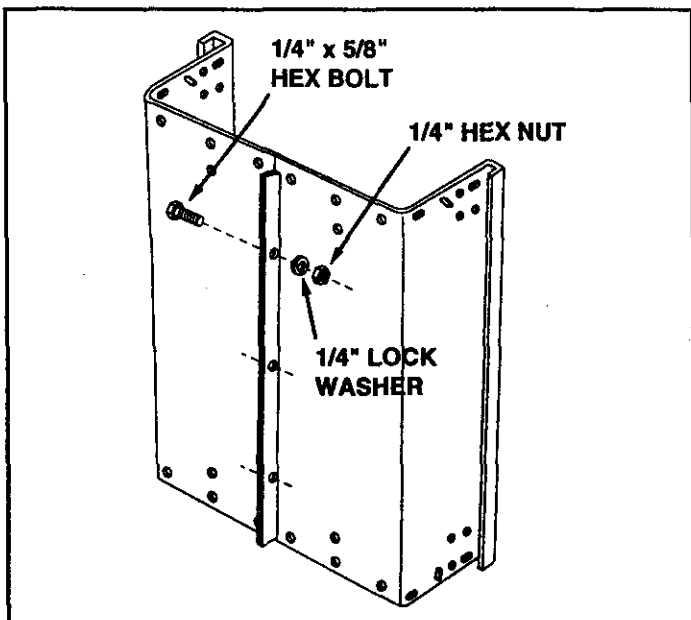
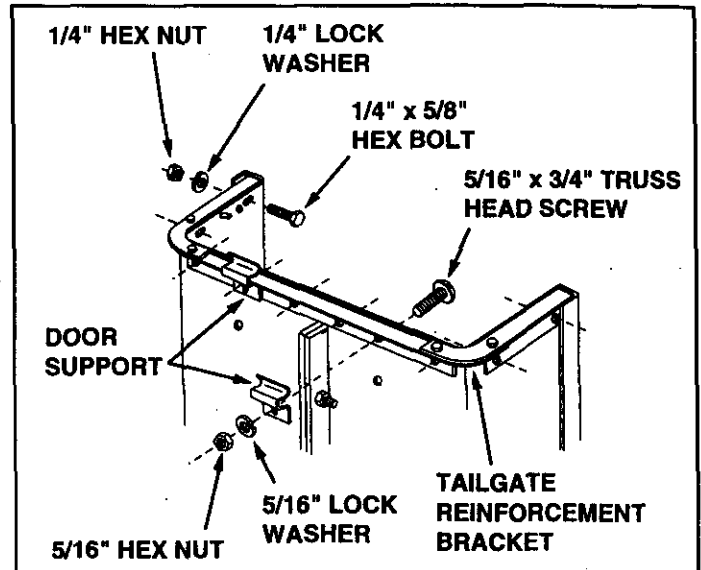

FIGURE 1
FIGURE 2
- Place cart body halves upright on a smooth level surface such as a garage floor or a paved driveway. See figure 1.
- Assemble cart body halves together using three 1/4" x 5/8" hex bolts, 1/4" lock washers and 1/4" hex nuts as shown in figure 1. **Do not tighten yet.**
- Fit the tailgate reinforcement bracket over the end of the cart bed. Position the two door support brackets on the bottom of the reinforcement bracket as shown in figure 2. Fasten the reinforcement bracket and the door supports to the bottom of the cart using six 5/16" x 3/4" truss head screws, 5/16" lock washers and 5/16" hex nuts. **Do not tighten yet.** See figure 2.
- Fasten the tailgate reinforcement bracket to the sides of the cart body using four 1/4" x 5/8" hex bolts, 1/4" lock washers and 1/4" hex nuts as shown in figure 2. **Do not tighten yet.**
- Pull the cart body halves together. **Tighten** the six truss head screws in figure 2. **Tighten** the four hex bolts in figure 2. **Tighten** the three hex bolts in figure 1, keeping the bottom aligned and pulled together.